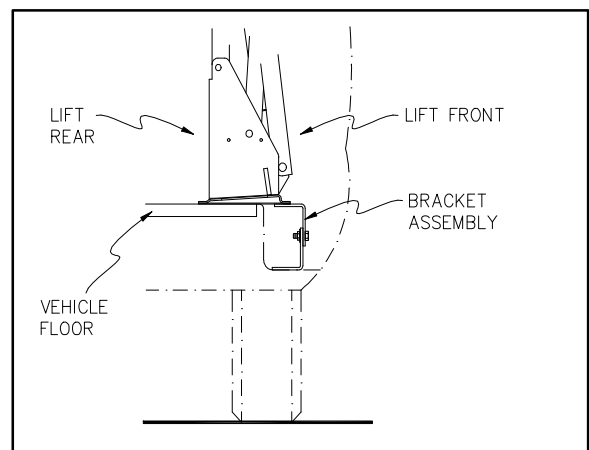

FIGURE 2-4: BRACKET ASSEMBLY
- d. Refer to **Figure 2-4**. With doors fully open, position lift in vehicle doorway so that back is supported by vehicle floor and front is supported by both bracket assemblies.